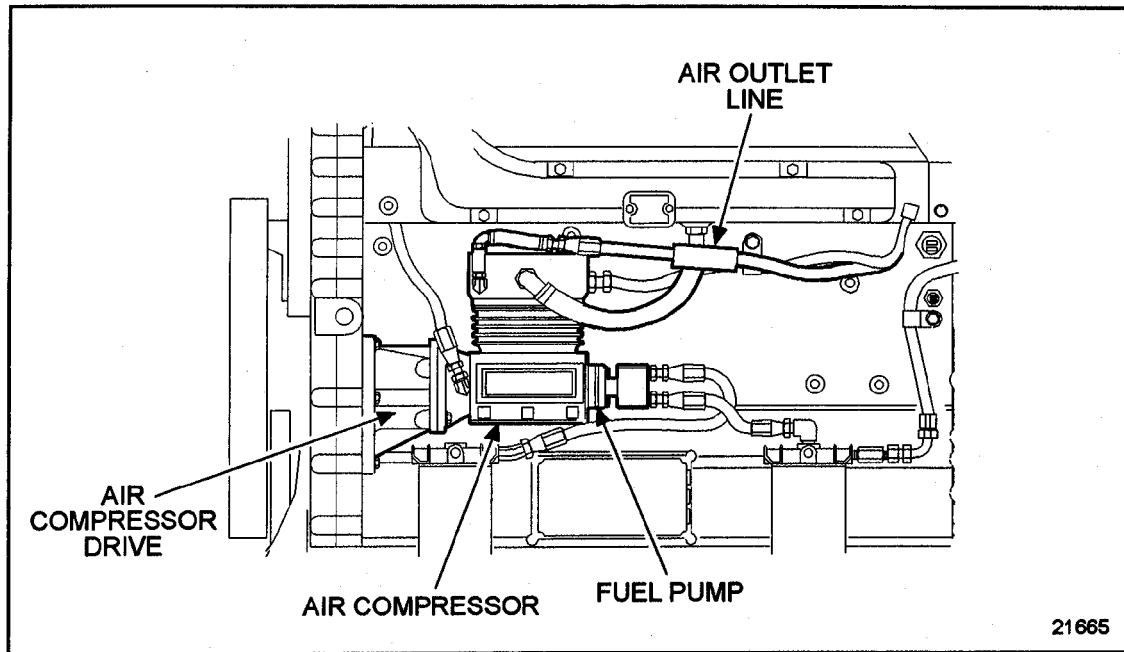

Figure 20-1 Air Compressor Air Outlet Line
2. Disconnect the air outlet line from the air compressor; see Figure 20-1; refer to section 10.1.5.